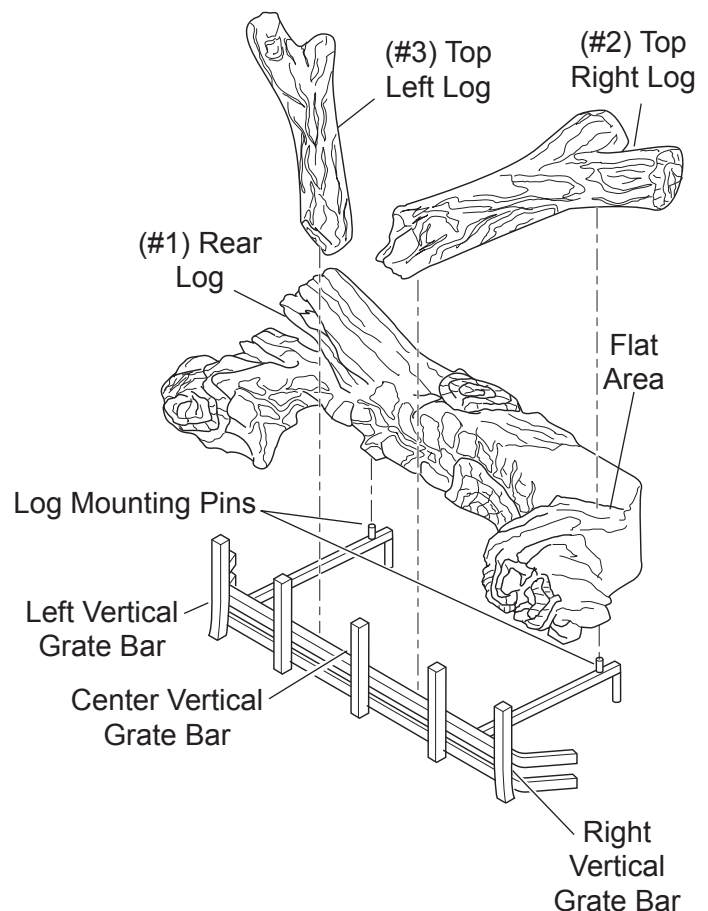

Figure 51 - Log Placement
1. Place rear log (#1) on grate assembly. Log should rest firmly on the two log mounting pins shown. *Figure 51*
2. Place top right log (#2) on the rear log. Rest the right back side of the log in the flat area of the rear log. Place the narrow front end of the log next to the center vertical grate bar. *Figure 51*
3. Place the top left log (#3) on the rear log. Nest the forked end of the top left log into the fork or the rear log. Rest the narrow end of the top left log behind the center vertical grate bar. *Figure 51*